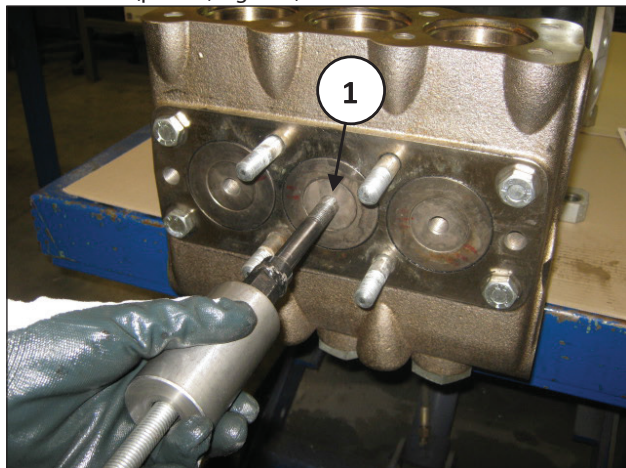

Fig. 103
- C) Remove the front plugs by means of an M16 extractor hammer (pos. ①, Fig. 103).